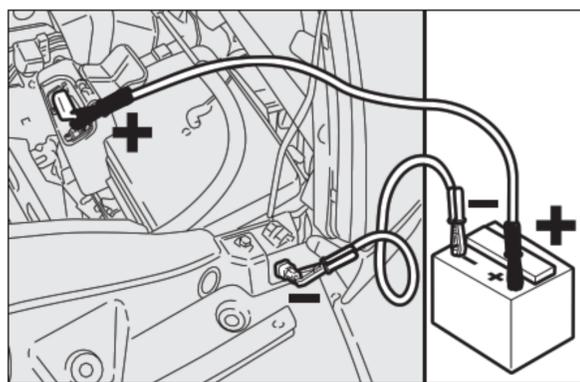

fig. 2
- connect with a second cable the negative terminal (-) of the auxiliary battery to the ground point as shown in **fig. 2**;